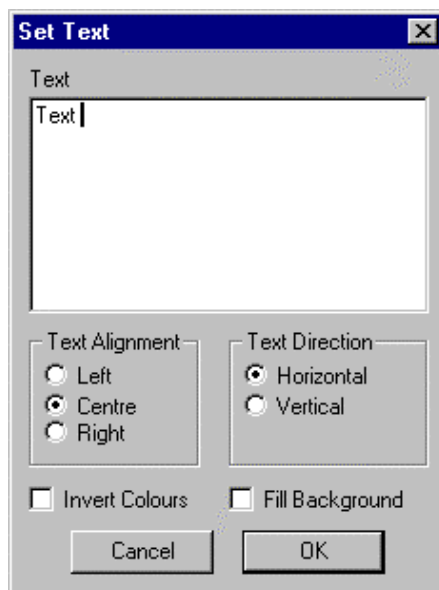

Figure 8.2 – Set Text
5. The Set Text window opens (Fig 8.2)